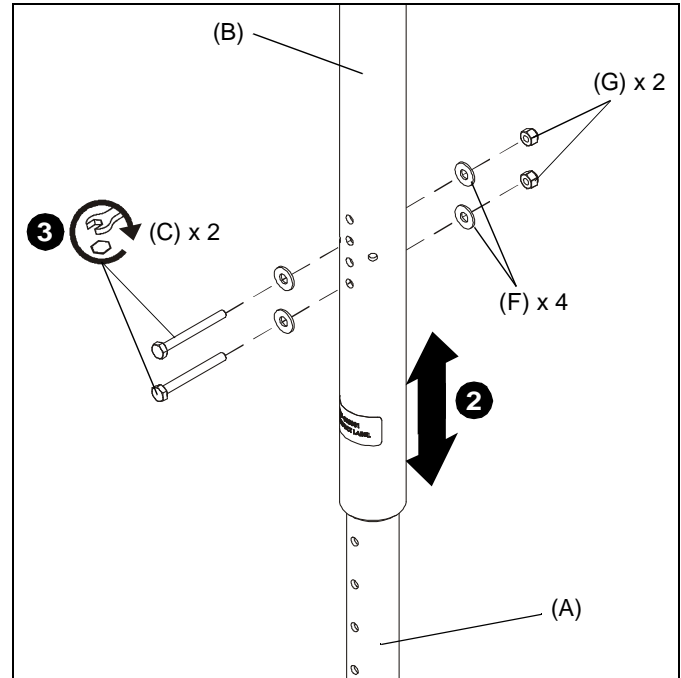

Figure 4
1. Slide the outer pipe (B) over the installed plate and post assembly (A).
2. Adjust the outer pipe (B) to the desired length.
3. Fasten outer pipe (B) to installed plate and post assembly (A) at desired length using two 1/4-20 x 2-1/2" hex head cap screws (C), four 1/4" washers (F) and two 1/4" locknuts (G). (See Figure 4)